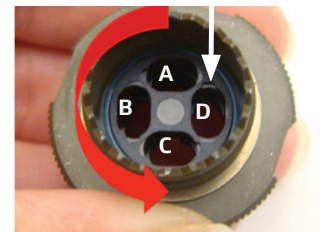

Figure 36: Rear view with insertion orientation
- Align the green/green-white pair's orientation keyway (i.e., the beige key), and insert it in position A, being careful not to insert it at an angle (Figure 36).